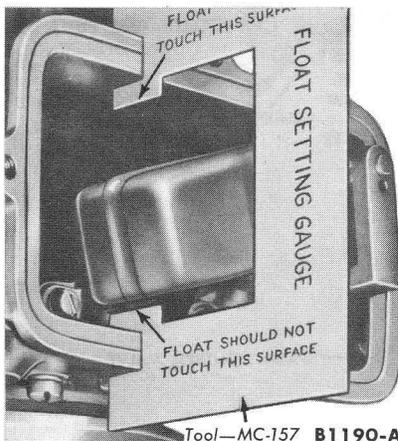
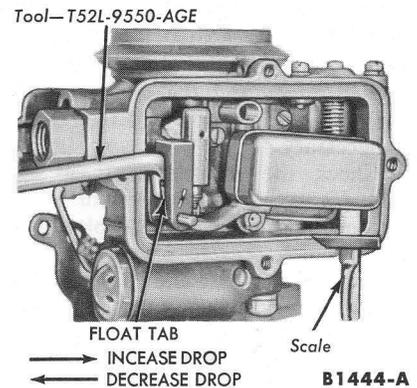

FIG. 12—Float Setting—Bench Check Only
FIG. 13—Float Drop
28. Invert the main body assembly, and check the setting of the float (Fig. 12). With the main body in the upright position, check the float drop (Fig. 13). There should be a $\frac{3}{16}$ inch clearance between the bottom of the float at the lowest point and the floor of the float chamber. Bend the upright tang to achieve the correct clearance.